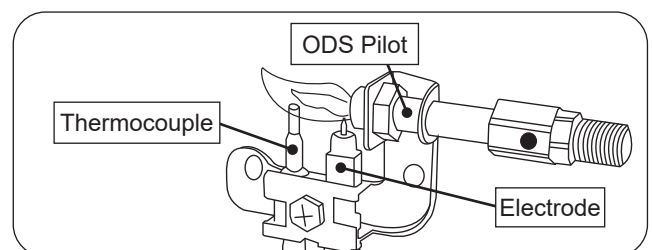

Fig. 21-2 ODS Pilot assembly detail
**Wait five (5) minutes to clear out any gas. Then smell for gas, including near the floor. If you smell gas, STOP! Follow "B" in the safety information above. If you do not smell gas, go to the next step.**
3. Locate the pilot assembly toward the center of the unit, near the main burner (see Fig. 21-2).